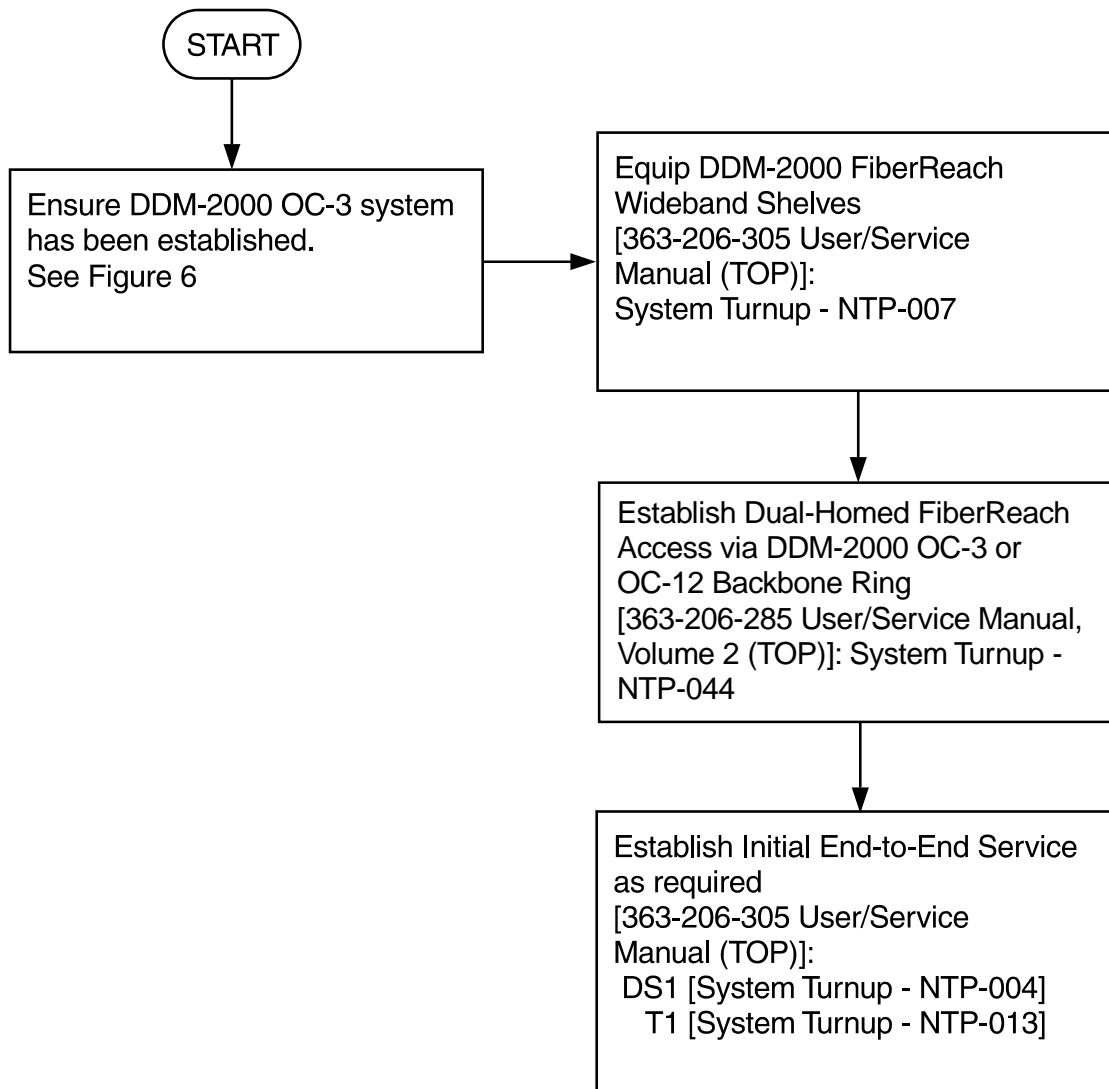

Figure 12 – DDM-2000/FT-2000 Large Network Configurations — Dual Homed FiberReach Access via DDM-2000 OC-3 or OC-12 Backbone Ring
- Figure 12 DDM-2000/FT-2000 Large Network Configurations — Dual Homed FiberReach Access via DDM-2000 OC-3 or OC-12 Backbone Ring